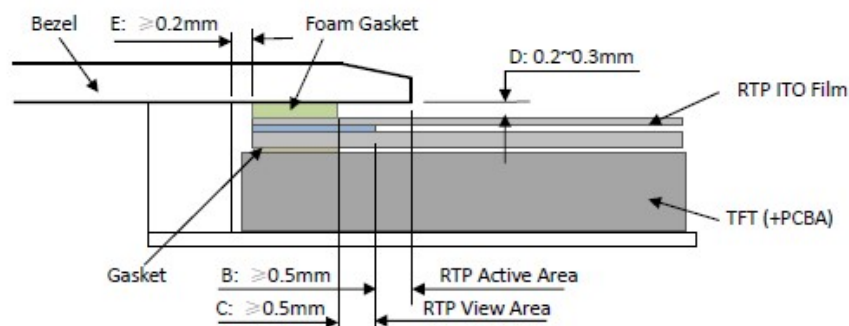

Figure 4
- It should bezel touching the RTP Active Area (A.A.) to prevent abnormal touch. It should left gap $D=0.2\sim0.3\text{mm}$ in between. (Figure 4)
- Outer bezel design should take care about the area outside the A.A. Those areas contain circuit wires which is having different thickness. Touching those areas could de-form the ITO film. As a result bezel the ITO film be damaged and shorten its lifetime. It is suggested to protect those areas with gasket (between the bezel and RTP). The suggested figures are $B\geq 0.50\text{mm}$; $C\geq 0.50\text{mm}$. (Figure 4)
- The bezel side wall should keep space $E=0.2\sim0.3\text{mm}$ from the RTP. (Figure 4)
- 为避免面框直接压在动作区 (A. A.) 上造成误动作, 面框与电阻触摸屏 (RTP) 之间应留有一定的空隙 $D=0.2\sim0.3\text{mm}$ 之间. (附图 4)
- 设计面框时, 要注意用面框保护触摸屏四周的非保证操作区域, 因为布线区域在此处形成一台阶, 在此区域附近操作时 ITO Film 变形较大, 容易导致 ITO 损坏而降低寿命. 为保护 RTP 和避免误操作, 在 RTP 与面框之间垫缓冲物 (Gasket), 我们建议设计面框应覆盖动作区的边缘, 面框边缘到 V. A. 区的距离 $B\geq 0.50\text{mm}$; 垫圈内边缘到 V. A. 区的距离 $C\geq 0.50\text{mm}$. (附图 4)
- 在设计面框与 RTP 组装时, 应考虑到面框内侧与 RTP 外侧的间距 $E\geq 0.2\text{mm}$. (附图 4)